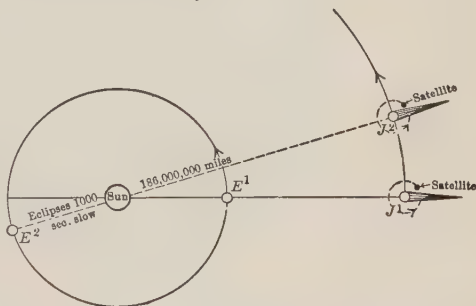

FIGURE 288.—RÖMER'S METHOD OF DETERMINING THE VELOCITY OF LIGHT.
**189. Römer's Method of Finding the Velocity of Light.** — The first reliable figures for the velocity of light were obtained by a Danish astronomer, Römer. Frequent observation had established the fact that Jupiter's inner satellite was eclipsed, *i.e.* darkened by entering Jupiter's shadow, on an average of once every  $42\frac{1}{2}$  hours (Figure 288). Let us assume the earth ( $E^1$ ) and Jupiter ( $J^1$ ) to be on the